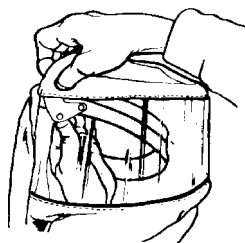

Figure 5
5. Engage four headband suspension snaps into corresponding snap studs mounted in plastic lens (see Figure 5).